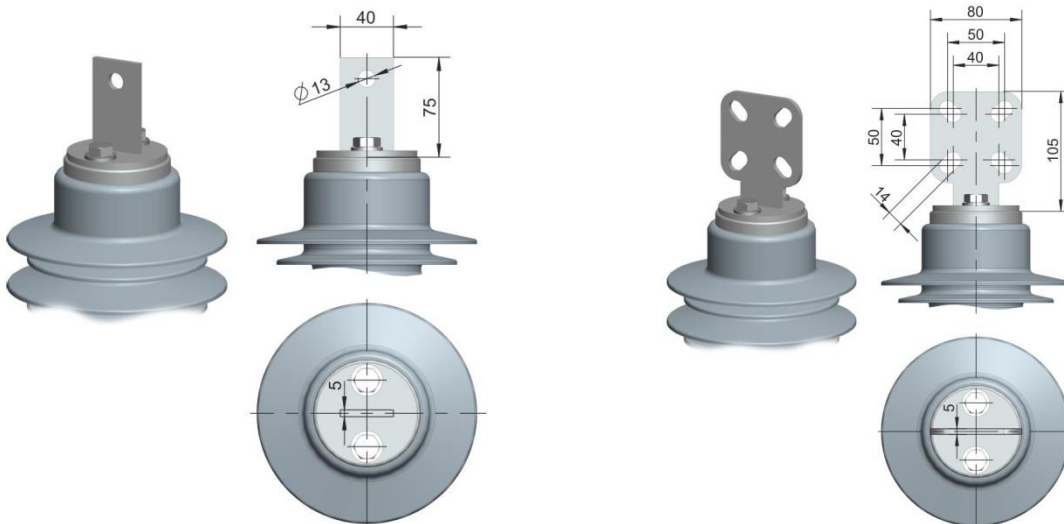

Fig. 7 Flat terminals: 488-04061-001 (left) und 488-04061-002 (right)
- Flat terminal (stainless steel) [Fig. 7]